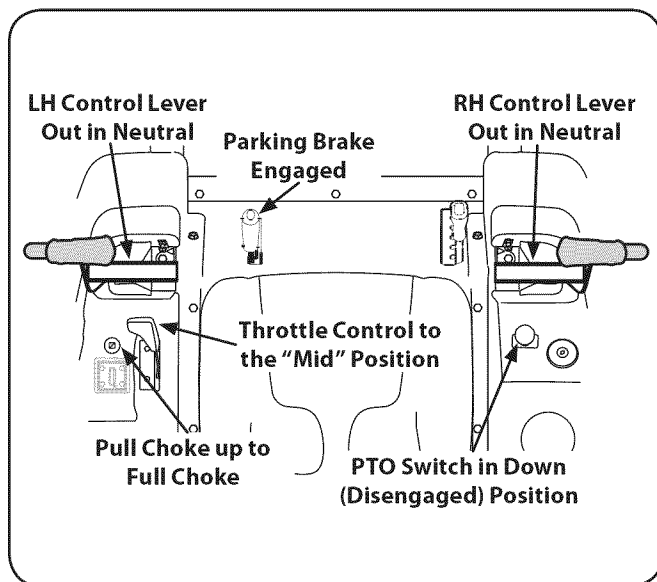

Figure 5-1
- Engage the parking brake. Refer to Fig. 5-1.
- Make certain the PTO switch is in the disengaged (down) position. Refer to Fig. 5-1.